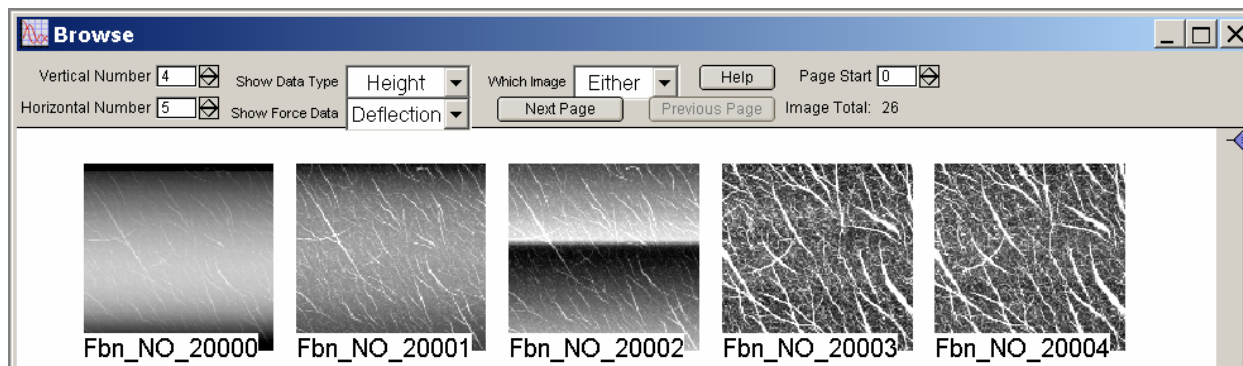

Figure 32: The display options of the Browse panel
- The *Browse* window shows the image files in thumbnail form & has more features (Figure 32). You can choose the size, data type, trace or retrace, etc.